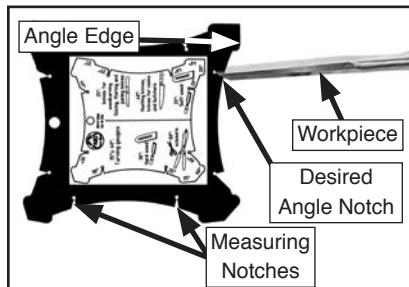

Figure 13. Measuring notches.
1. Locate the eight measuring notches on the angle finder (see **Figure 13**).